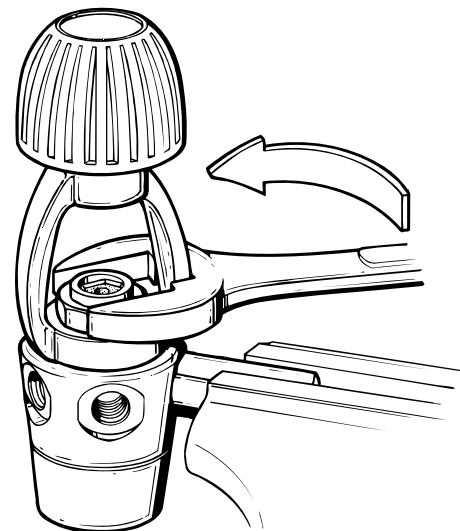

Fig. 1 - Yoke retainer removal
7. Apply a 26mm open-end wrench over the yoke retainer(7) (see Fig. 1). Using firm, steady force, turn the yoke retainer counter-clockwise to loosen and remove from the inlet boss of the first stage body. Lift the yoke retainer and yoke off the inlet boss, and set the yoke aside.